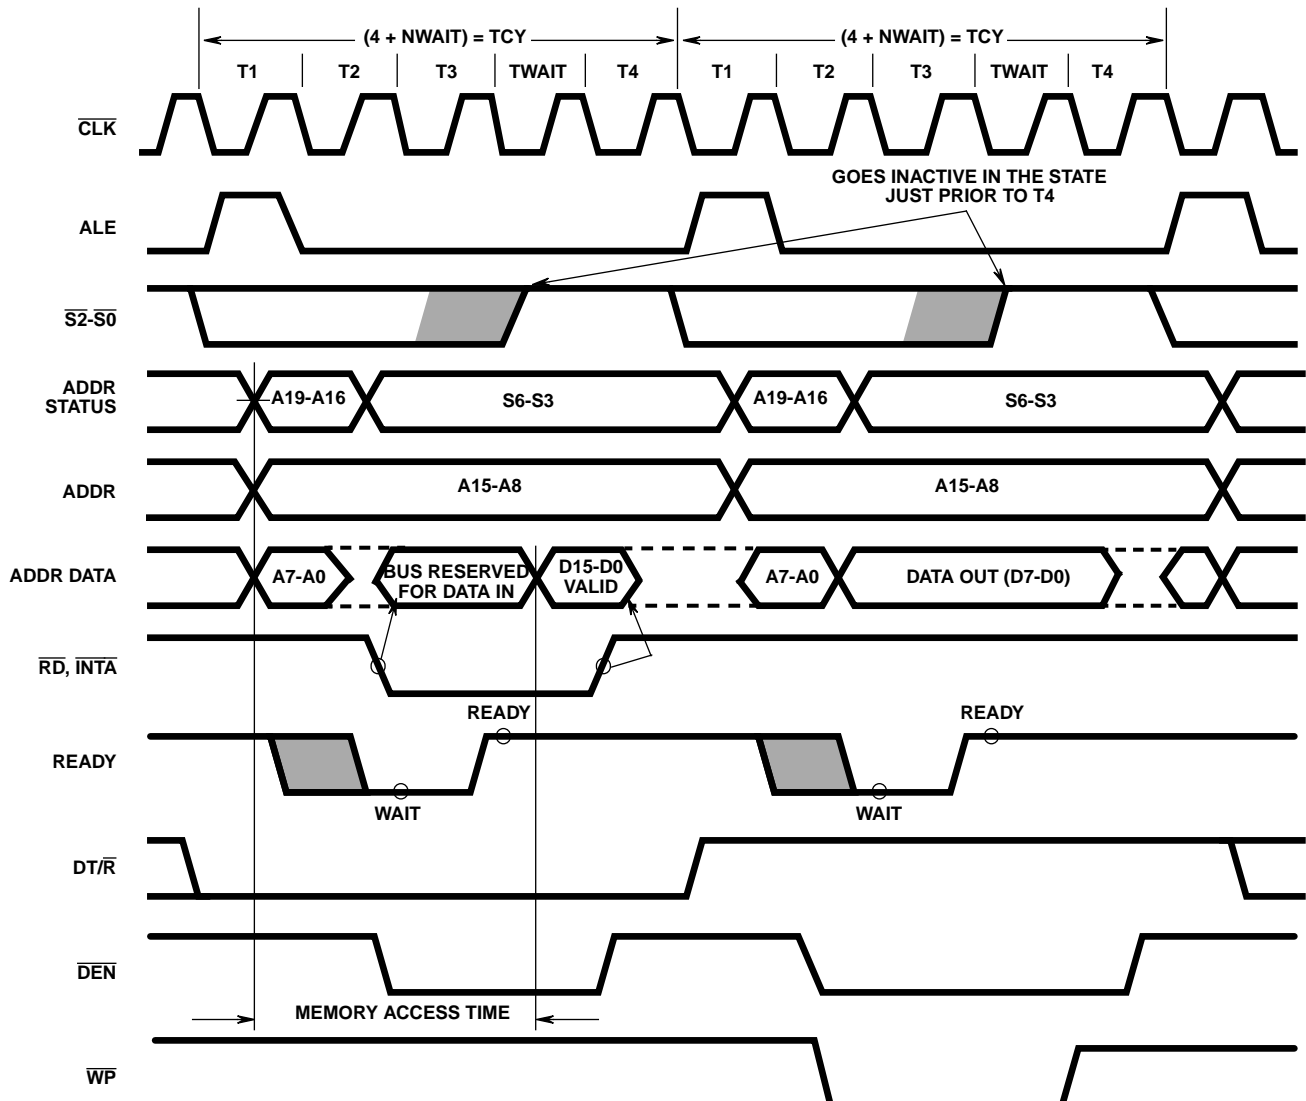

FIGURE 5. BASIC SYSTEM TIMING
Each processor bus cycle consists of at least four CLK cycles. These are referred to as T1, T2, T3 and T4. (See Figure 5). The address is emitted from the processor during T1 and data transfer occurs on the bus during T3 and T4. T2 is used primarily for changing the direction of the bus during read operations. In the event that a "Not Ready" indication is given by the addressed device, "wait" states (TW) are inserted between T3 and T4. Each inserted "wait" state is of
The read cycle begins in T1 with the assertion of the address latch enable (ALE) signal (see Figure 5). The trailing (low going) edge of this signal is used to latch the address information, which is valid on the address data bus (ADO-AD7) at this time, into the 82C82/82C83 latch. Address lines A8 through A15 do not need to be latched because they remain valid throughout the bus cycle. From T1 to T4 the  $\text{IO}/\overline{\text{M}}$  signal indicates a memory or I/O operation. At T2 the address is removed from the address data bus and the bus is held at the last valid logic state by internal bus-hold devices. The read control signal is also asserted at T2. The read ( $\overline{\text{RD}}$ ) signal causes the addressed device to enable its data bus drivers to the local bus. Some time later, valid data will be available on the bus and the addressed device will drive the READY line HIGH. When the processor returns the read signal to a HIGH level, the addressed device will again three-state its bus drivers. If a transceiver (82C86/82C87) is required to buffer the local bus, signals DT/ $\overline{\text{R}}$  and DEN are provided by the 80C88.